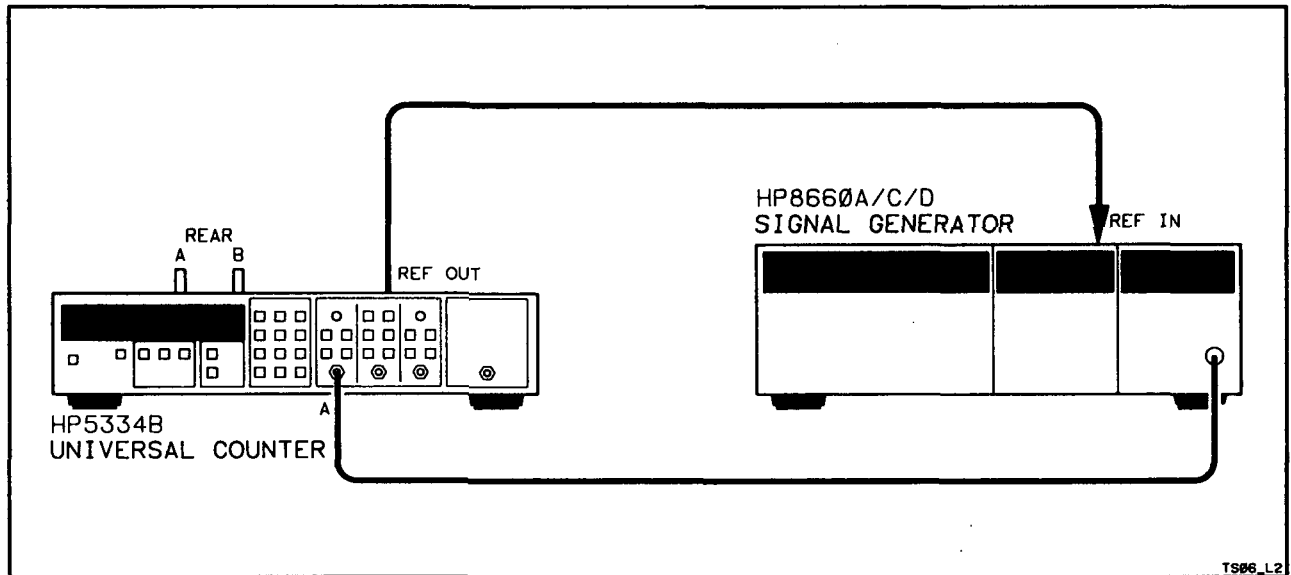

Figure 4-6. Channel A Frequency and Sensitivity Setup
4. Connect the signal generator to the HP 5334B front panel Input A as shown in Figure 4-6.